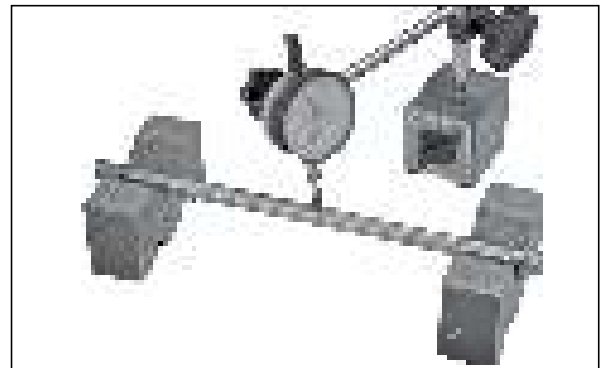

Fig. 6.154
- Using the special tools, check shaft complete swing arm for run-out and replace it with a new one if run-out exceeds the limit. (Fig. 6.154)